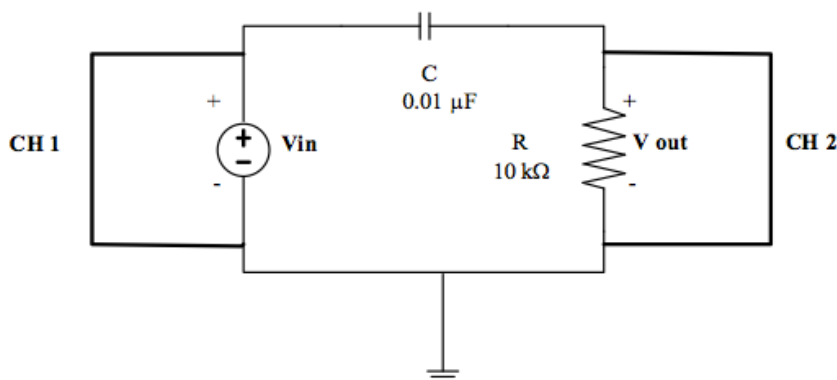

Figure 2
1. Build the circuit in figure 2.